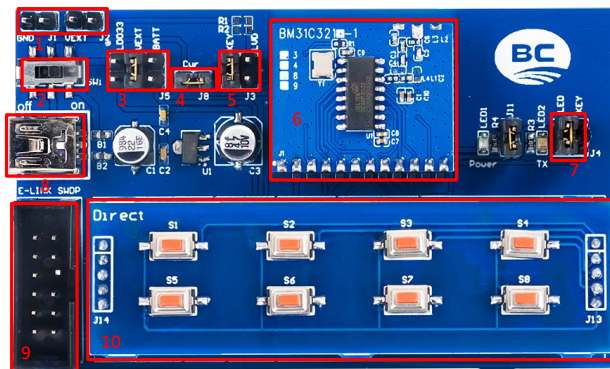
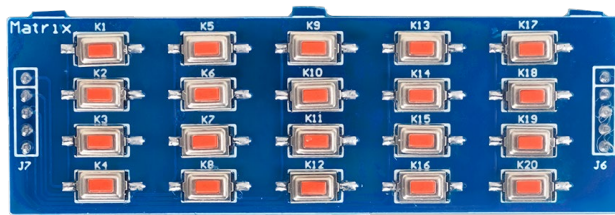

Figure 19
Figure 20
The BC68F3132 is a hopping code wireless transmitter, which development board consists of BCE-GENTX and BM31C321X, as shown in Figure 19.
10. There are two options for the keyboard. The Direct keyboard is shown in Figure 19 and the Matrix keyboard is shown in Figure 20.